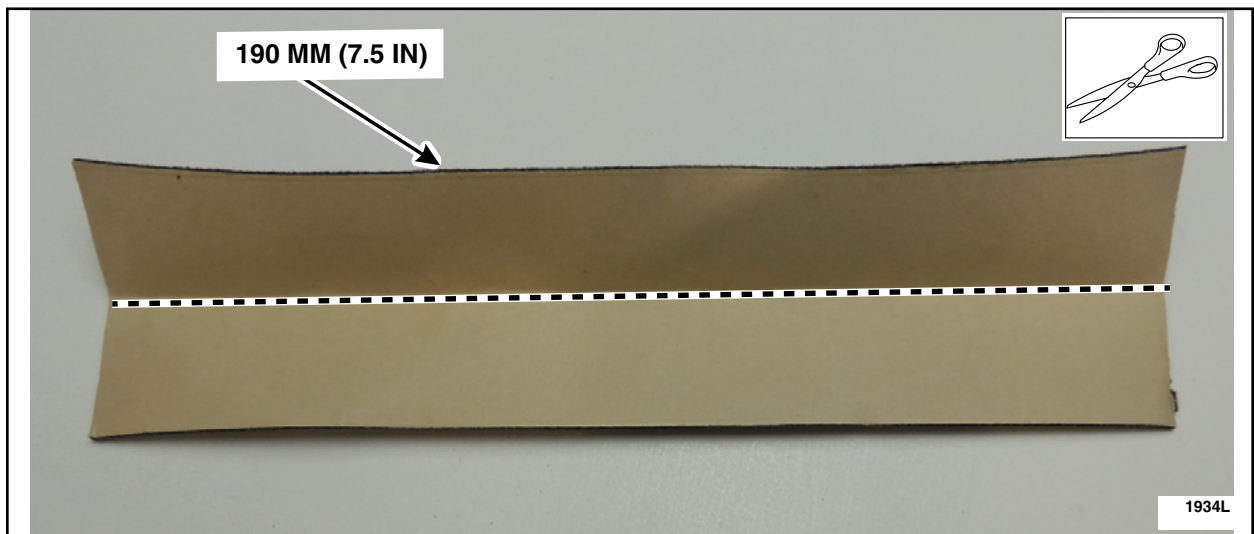

FIGURE 3
4. Take the 190 mm (7.5 in) piece of flocked tape fold and cut it in half length wise into two equal strips. See Figure 3.